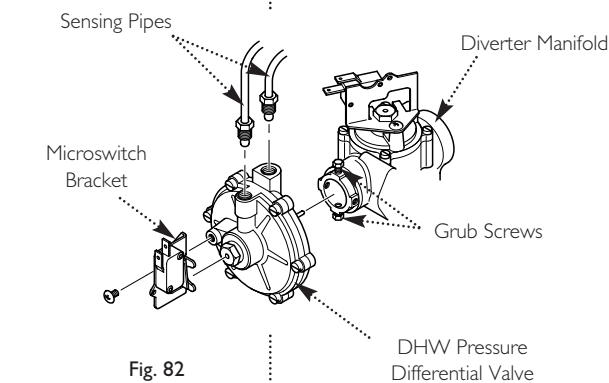

Fig. 82
14.22 Diverter Valve Assembly (Figs. 82 & 83)
2. Undo the screw securing the microswitch bracket to the valve (Fig. 82).